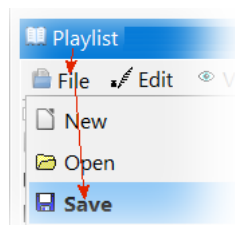

Figure 28
- Now would be a good time to save the Playlist, so click on the Playlist / File / Save option (Figure 28) and enter "Soil_Analysis" as the title.